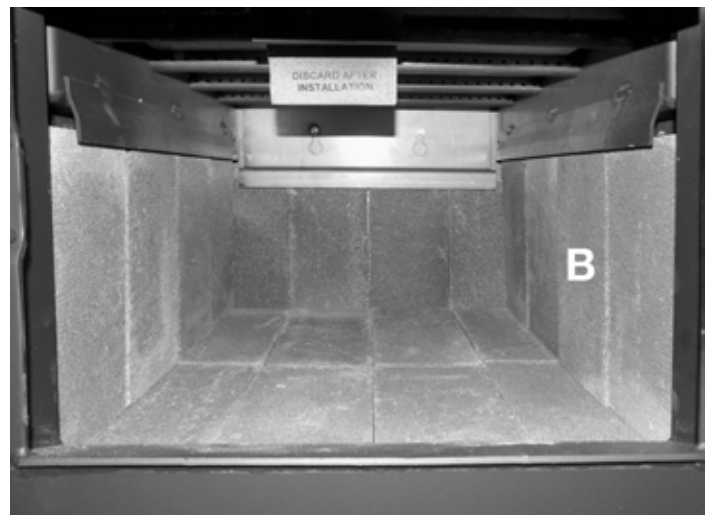

Figure 22: Remaining side wall bricks installation.
5. Using the same method, place three more bricks along one of the side walls. Figure 22